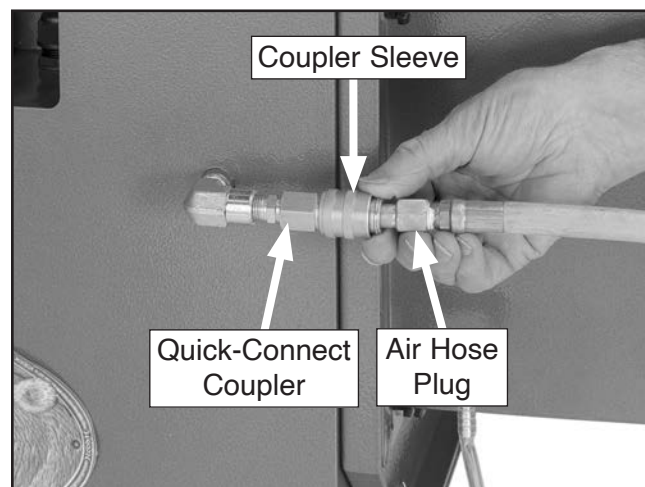

Figure 41. Pushing coupler sleeve to release plug.
4. Push downdraft table coupler sleeve toward downdraft table to release air hose plug (see **Figure 41**).